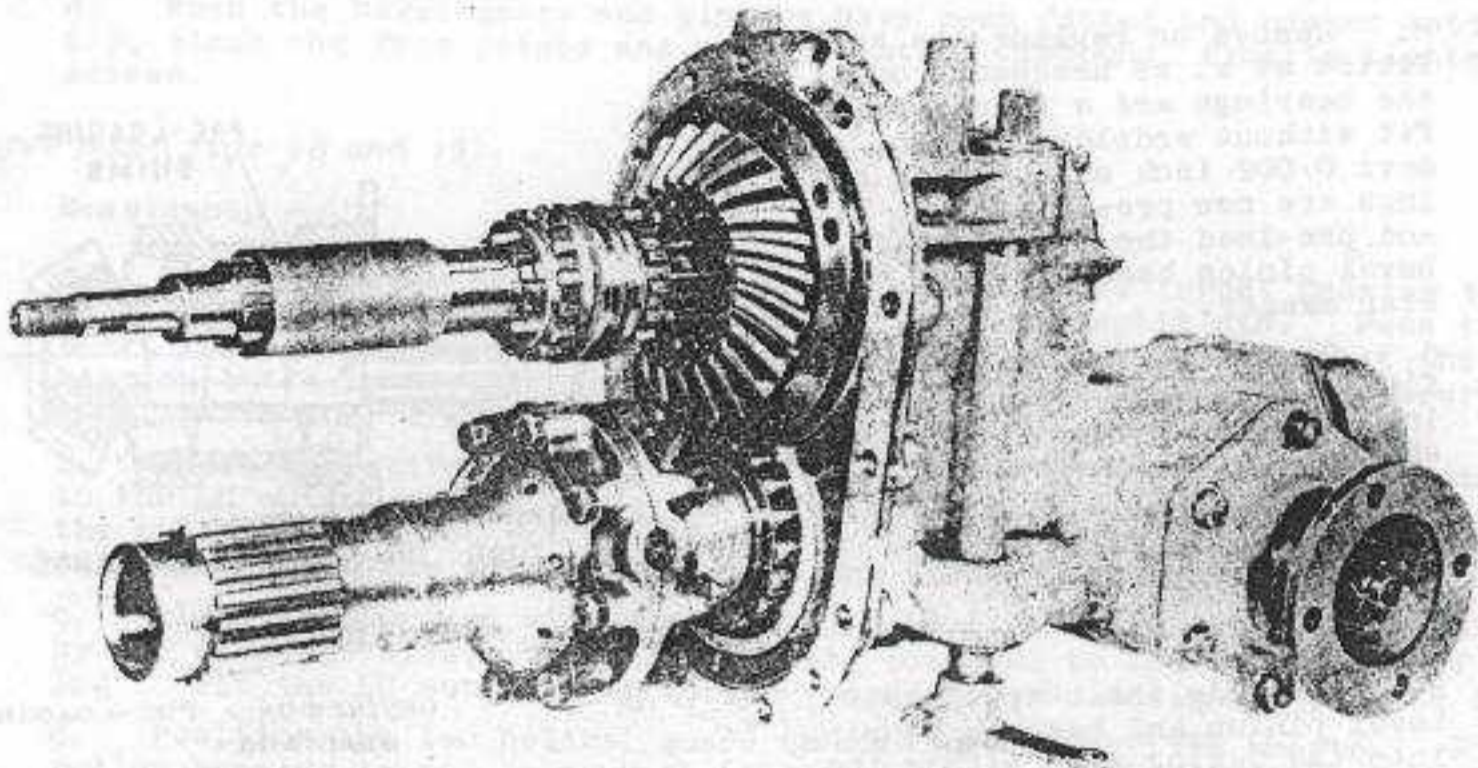

FIG 19 - TRANSFER BOX - LH OUTPUT CASING WITHDRAWN COMPLETE WITH MAIN-SHAFT AND DIFFERENTIAL ASSEMBLY
b. Remove the casing output LH. This will come away with the main-shaft, sliding dog, sleeve and differential complete (fig 19).